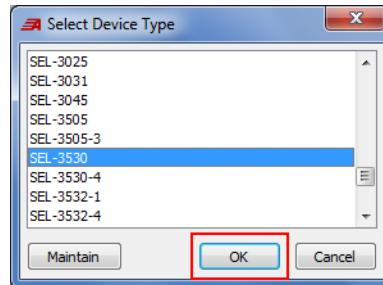

Figure 168 Add SEL-3530 Device Type
Step 8. Right-click the **RTAC Listening** folder, select **Add > Device**, and add the **SEL-3530**, as shown in *Figure 168*.